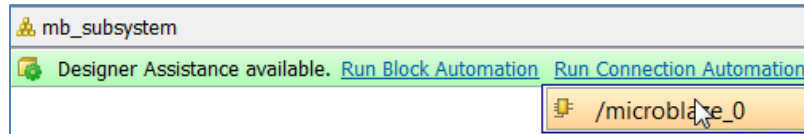

Figure 105: Run Block Automation
1. Click **Run Block Automation** and select `/microblaze_0` (FIGURE 105).